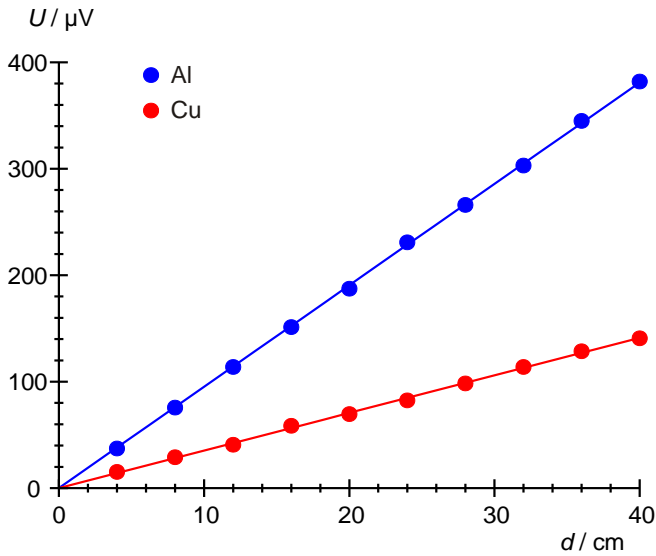

Fig. 3: Plot of U against d for copper and aluminium
- Plot the voltages U measured as a function of distance d (Tab. 1) for the copper and aluminium rods on one graph (Fig. 3) and fit a straight line through the origin to each set of points.